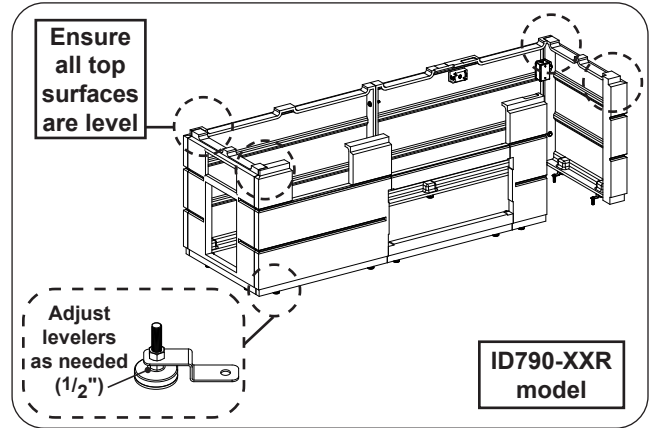

Fig. 10-1 Level assembly
1. Use the level to ensure the top surfaces of the assembly are level. The levelers at the bottom of the island may be adjusted as needed with a $\frac{1}{2}$ " open end wrench. See Fig. 10-1.